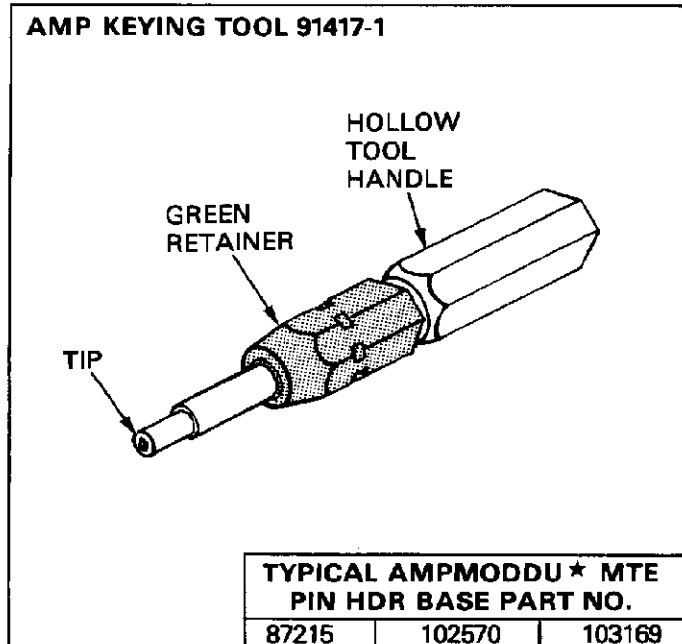

Fig. 1
This instruction sheet (IS) covers AMP Keying Tool 91417-1, which is shown in Figure 1. Read this material thoroughly before starting.
2. DESCRIPTION (Figure 1)
AMP Keying Tool 91417-1 is designed to remove .025 square pin contacts from AMPMODU MTE pin headers, such as those listed in Figure 1. The tool features a hollow tool handle, a tool tip, a green tip retainer, and a gage bushing (inside retainer). For further information regarding AMPMODU MTE Connectors, refer to AMP Instruction Sheet IS 6919.